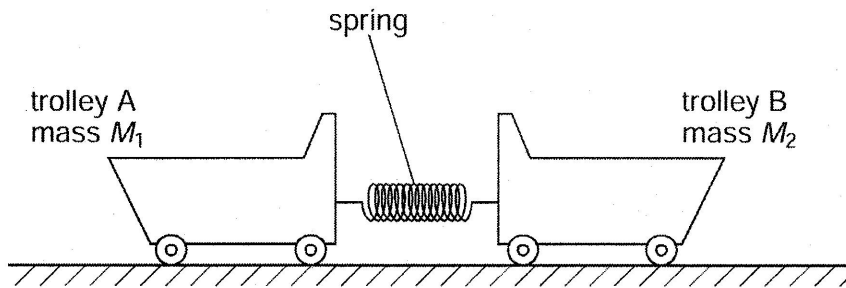

Fig. 3.2
- (b) The spring in (a) is used to join together two frictionless trolleys A and B of mass  $M_1$  and  $M_2$  respectively, as shown in Fig. 3.2.